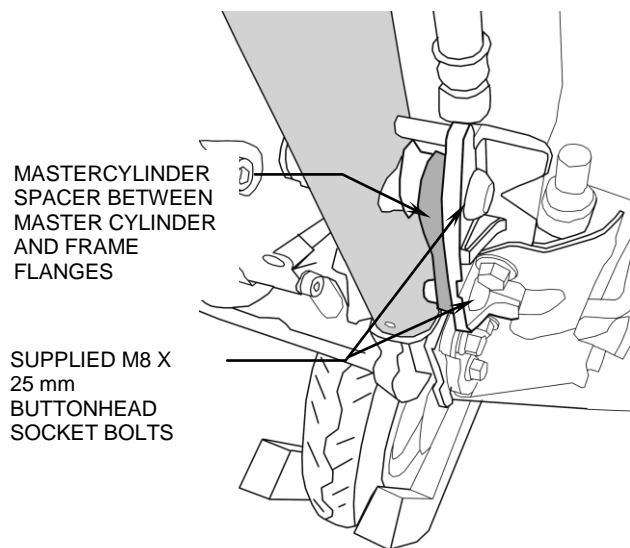

FIGURE 5.
4. Remove the (2) M8 bolts from the rear master cylinder on the right side of the motorcycle and discard. Place the provided black spacer between master cylinder and frame and insert the (2) supplied M8 x 25 mm buttonhead bolts through assembly and into frame and tighten, see Figure 5.
5. Tighten the (2) M10 bolts on the **right** side lower freeway bar / floorboard mount and **left** side M10 bolt in the same manner. Torque all bolts to their appropriate factory torque values.